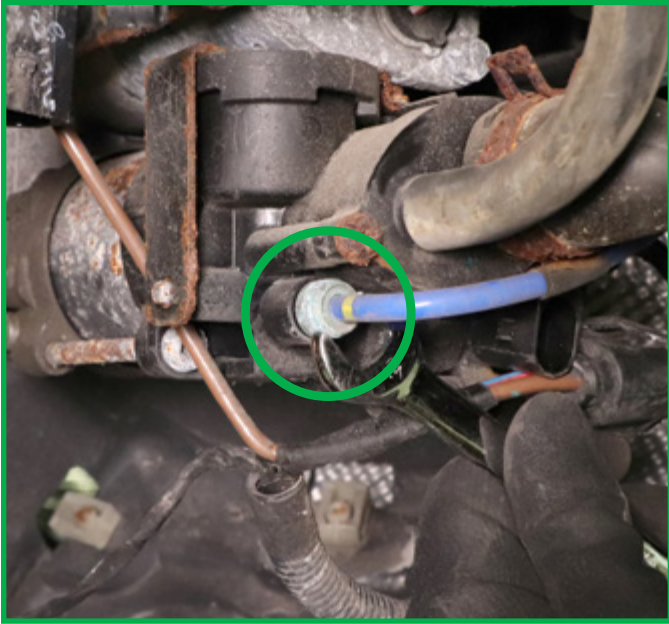

FIGURE 10
6. Disconnect the air line from the compressor. (Figures 10, 11)